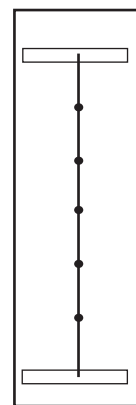

Fig. 1
1. Tie five knots, equally spaced, for climbing grips. **(Fig. 1)**
1. Align top of Climbing Wall at right angle (90°). Lip of Climbing Wall should rest on the play deck 1½". Using the Climbing Wall as a template, mark play deck through the three holes in the climbing wall. Drill three ⅜" holes at marked locations. (Fig. 1)